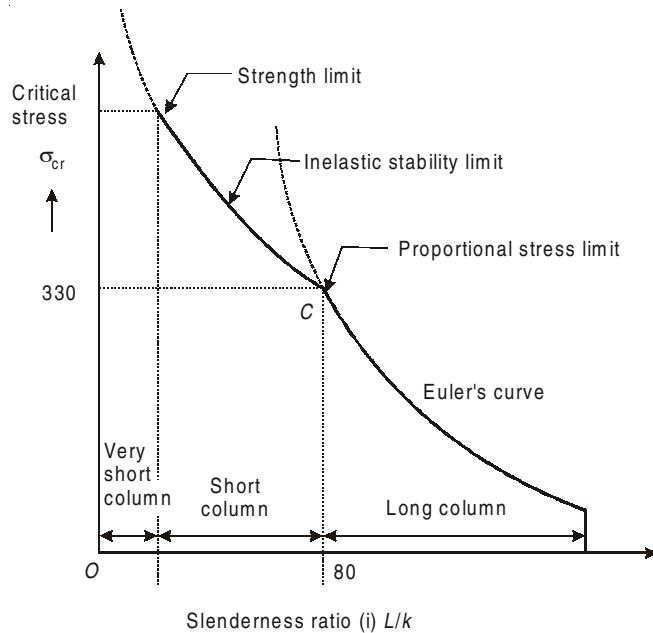

Fig. 7.9
2. The graph plotted between critical stress σ_{CR} and slenderness ratio is shown in Fig. 7.9.